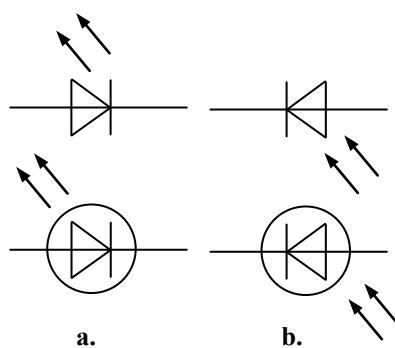

Fig. 1.16
**Optoelectronics.** Fig. 1.16,a displays a *light-emitting diode* (LED). This diode emits visible and invisible light rays when forward current through it exceeds the turn-on current. In the forward-biased LED, free electrons cross the junction and fall into holes. As these electrons fall from the higher to a lower energy level, they radiate energy. In rectifier diodes, this energy goes off in the form of heat. However, in a LED the energy is radiated as light. LEDs have replaced incandescent lamps in many applications because of their low voltage, long life, and fast on-off switching. LEDs are constructed of gallium arsenide or gallium arsenide phosphide. While their efficiency can be obtained when conducting as little as 2 mA of current, the usual design goal is in the vicinity of 10 mA. During conduction, a voltage drop on the diode is about 2 to 3 V that is twice more than the rectified diode.
The same principle is used in *photoelectric cells*. When light energy bombards a *pn* junction, it can dislodge valence electrons. The more light striking the junction, the larger is the reverse current in a diode. Among the photoelectric cells that use this phenomenon, the most popular optoelectronic device is a *photodiode*. A photodiode is the one that has been optimized for its sensitivity to light. In this diode, a window lets light pass through the package to the junction. The incoming light produces free electrons and holes. The stronger the light, the greater the number of minority carriers and the larger the reverse current. Fig. 1.16,a shows a photodiode under reverse biasing where light becomes brighter and the reverse current increases.